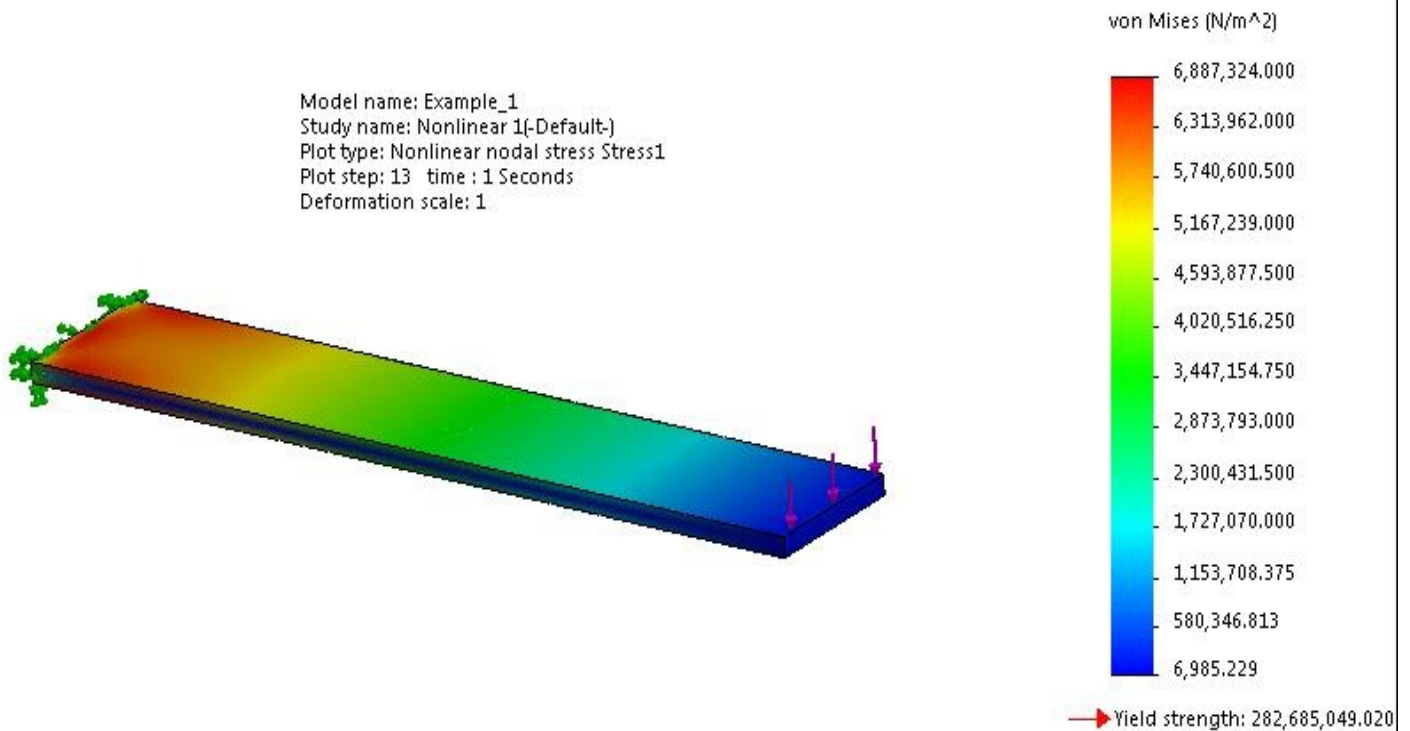
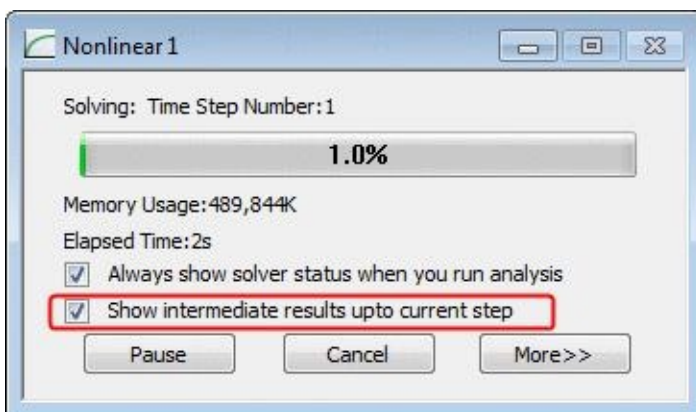

Figure-13. Result
Figure-14. Non linear analysis solver dialog box
- Click on the **Run** button from the **Ribbon**. The system will start analyzing the problem. Once the system is done, the results will be displayed in the Modeling area; refer to Figure-13. Note that in SolidWorks 2015, you can also see the intermediate results by selecting the **Pause** button from the **Solver** dialog box. Make sure that you have selected the **Show intermediate results upto current step** check box to display the results; refer to Figure-14. If you find that results are not as per expectation then click on the **Cancel** button and perform the changes.